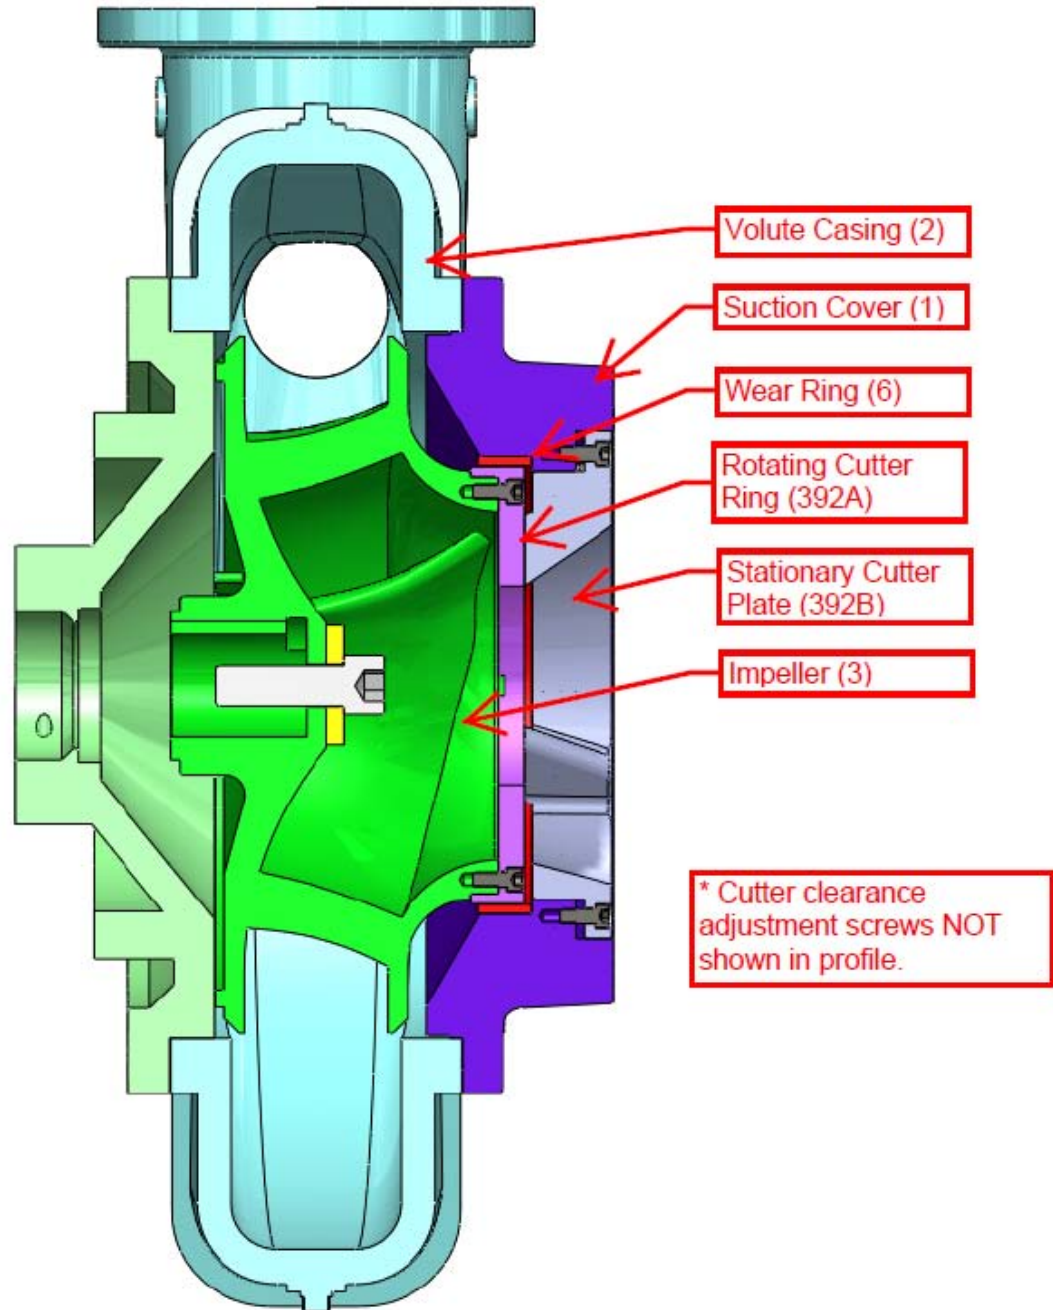
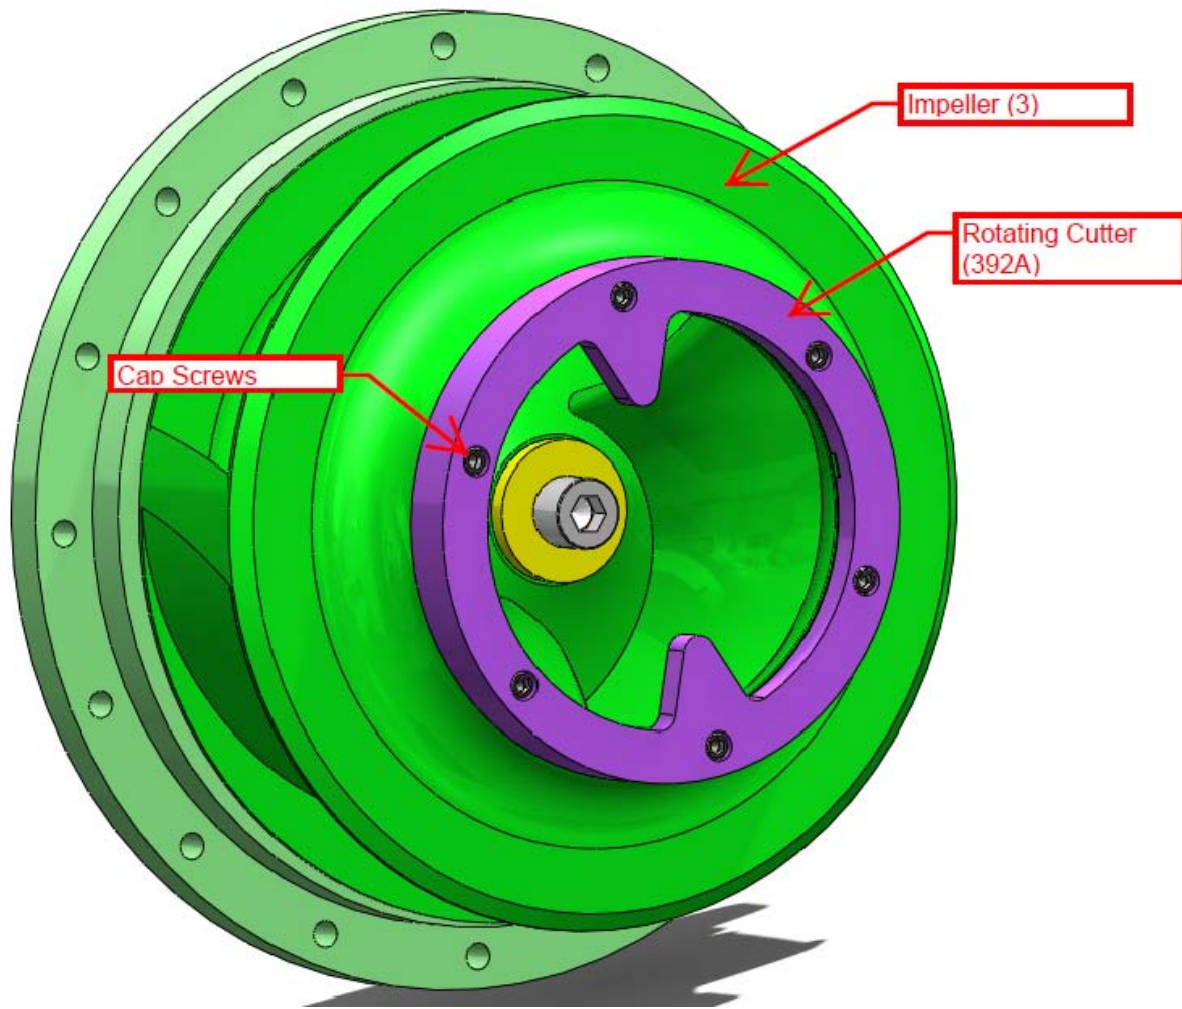

Figure 2. Cutter Modification Kit Profile
Figure 3. Rotating Cutter Ring and Impeller Subassembly
Isolate and lockout all power to the pump and motor. Disconnect external connections (inlet piping, discharge piping, coupling alignment, frame-baseplate bolts/shims). Disconnect pump from volute casing and suction cover thus exposing the rotating element impeller (3) and cutter ring (392A) *Figure 2*. Remove all cap screws from rotating cutter ring (392A) *Figure 3*. Use pry bars if necessary to completely remove ring. Inspect and replace as necessary.